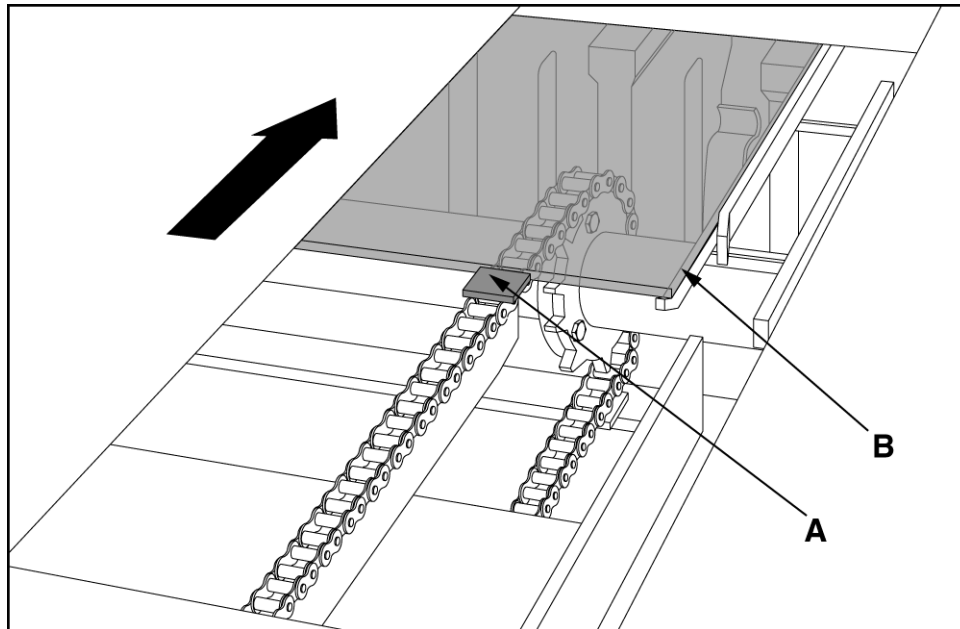

Figure 6.16 LUG (A) SHOULD BE CONTACTING PALLET WHEN IN CRADLE (B)
6.2.9 Adjust pallet chain lugs to be even with back of pallet (see figure 6.16) by removing shear bolt and shaft (6.17). Use wrench to adjust lug chain (6.18). Place shear bolt assembly in holes that align and tighten.